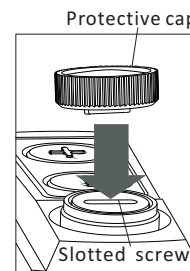

Fig 6
2. The built in screwdriver tool on the protective cap can be used for zeroing alignment (see Fig6). See label inside cap.